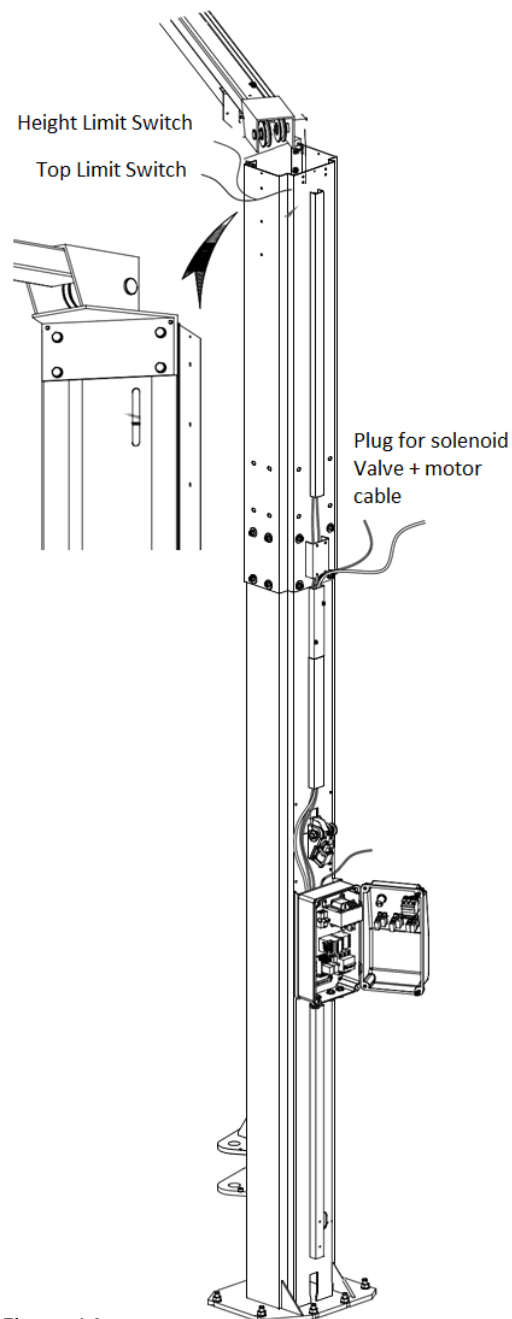

Figure 14
14. Pull cables from control unit as shown on Figure 14.
**NOTE!** It is important that cables are pulled in and out through the top of the channel at the top of post extensions (Figure 14).